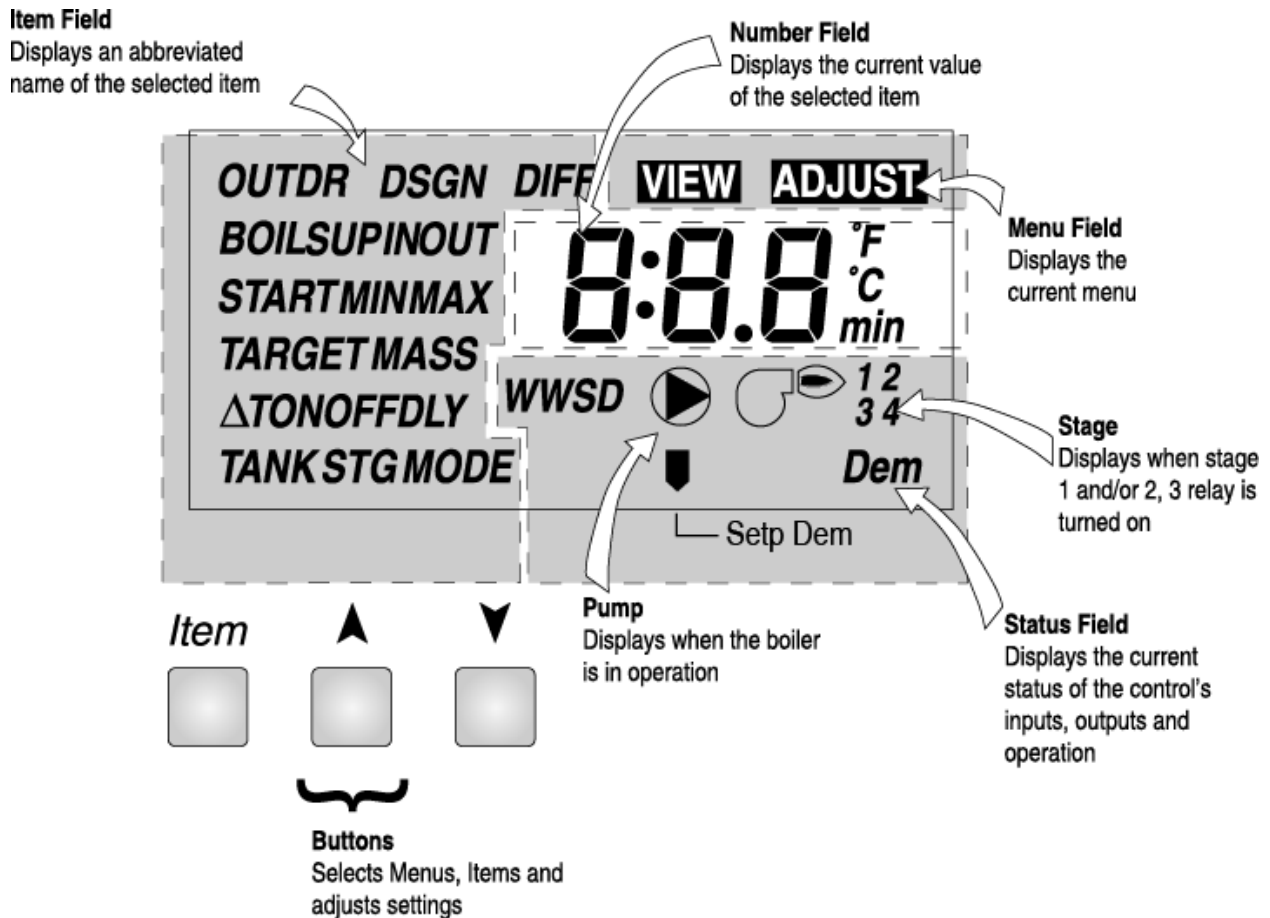

Figure 3 - BC1 Controller LCD Display
- 6) Press and hold three keys found below the LCD screen of the controller until "Adjust" is displayed (Figure 3). In adjust mode, enter the desired settings for your heating application (see *BTC Series Boiler Controller Manual* for more information).